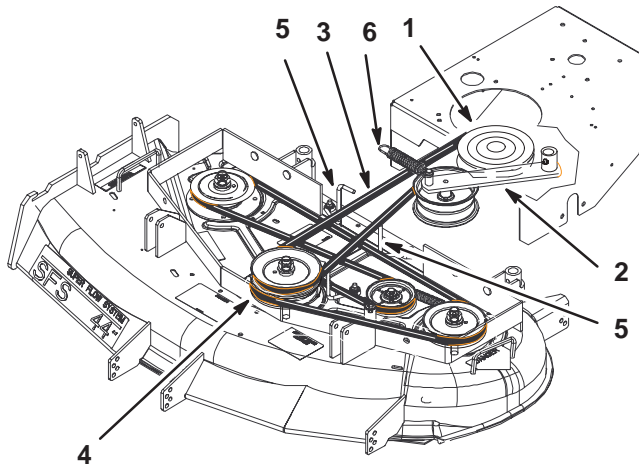

Figure 71
4. Remove the idler spring from idler arm. Remove the drive belt from the PTO engagement pulley and the center spindle pulley (Fig. 71).
5. Remove the worn drive belt (Fig. 71).
6. Install the new drive belt onto the PTO engagement pulley and the top groove of the center spindle pulley (Fig. 71).
7. Install belt onto idler pulley and then install idler spring (Fig. 71).
8. Adjust PTO drive belt guides an 1/8 in. (3 mm) from belt (Fig. 71).